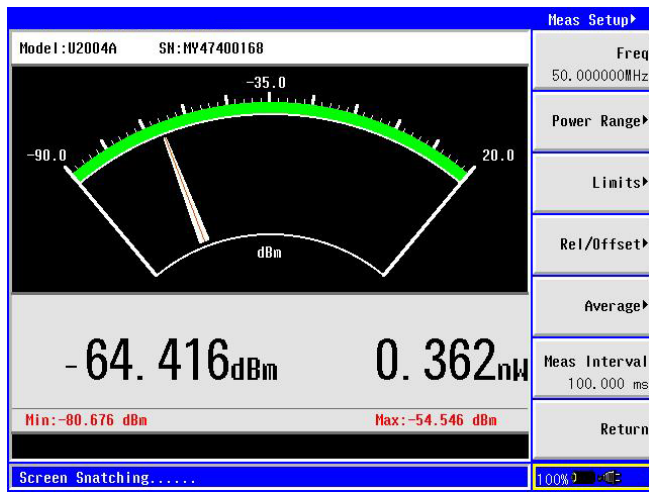

Figure 18. Measurement Setup menu with meter-view display measurement
5. Press {Return} > {Meas Setup} (see Figure 18).